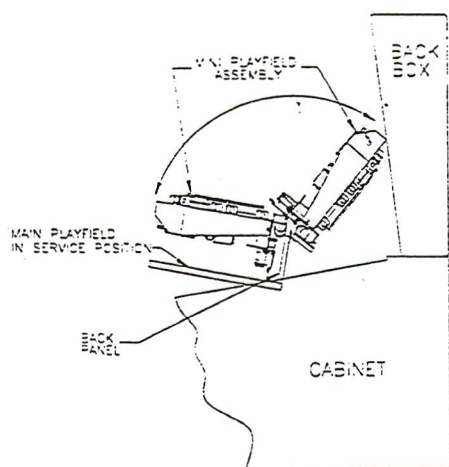

Fig. 2
2. With the main playfield in its service position (i.e. tilted up and moved forward resting on its support brackets), raise mini-playfield and rest it against the back box (See Fig. 2).